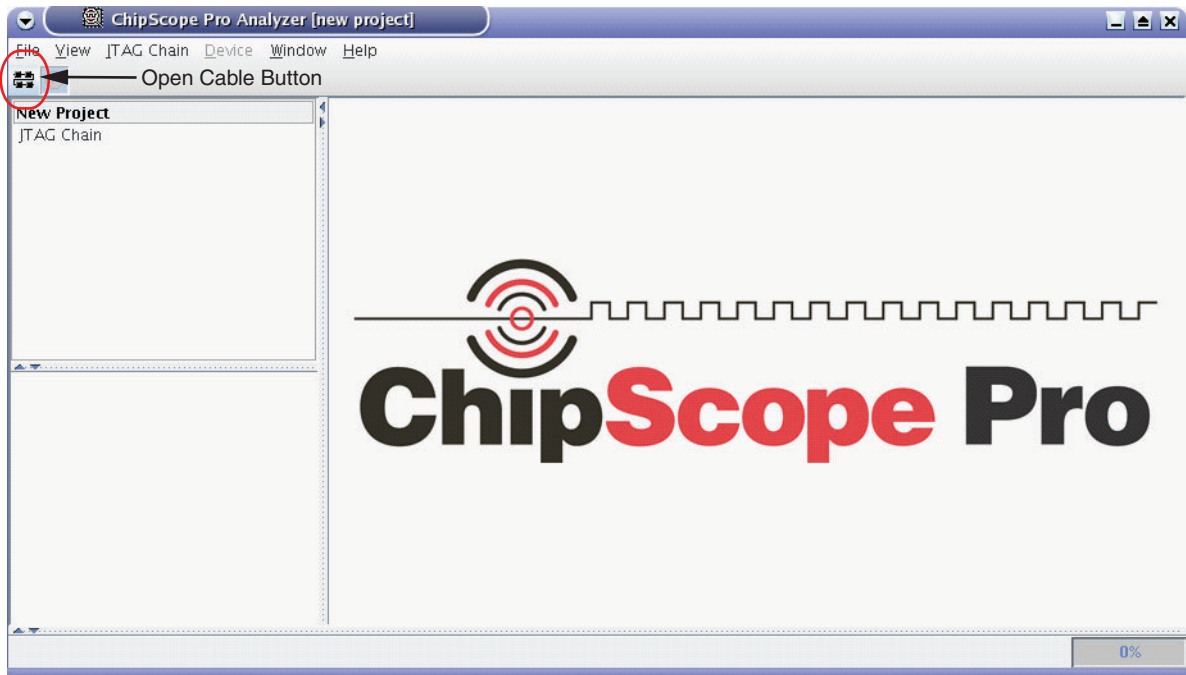

Figure 1-29: **Open Cable Button**
- Click the **Open Cable** button (Figure 1-29).